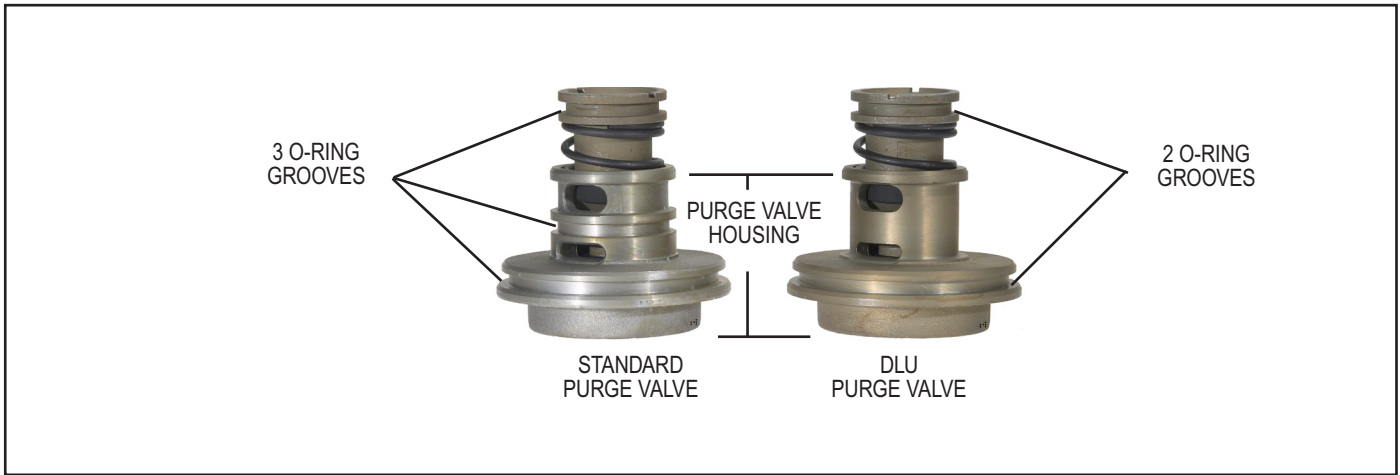

FIGURE 6 - BENDIX® AD-IP® AND AD-IP DLU AIR DRYER PURGE VALVES
**DISCHARGE LINE UNLOADER** (Refer to Figure 6)